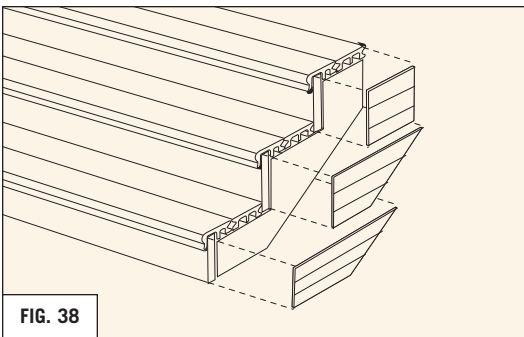

FIG. 38
- Cladding can also be cut into short lengths and installed horizontally or vertically to match the stringer outline. Consult local building codes for allowable spaces under stair railings. (REFER TO FIG. 38)